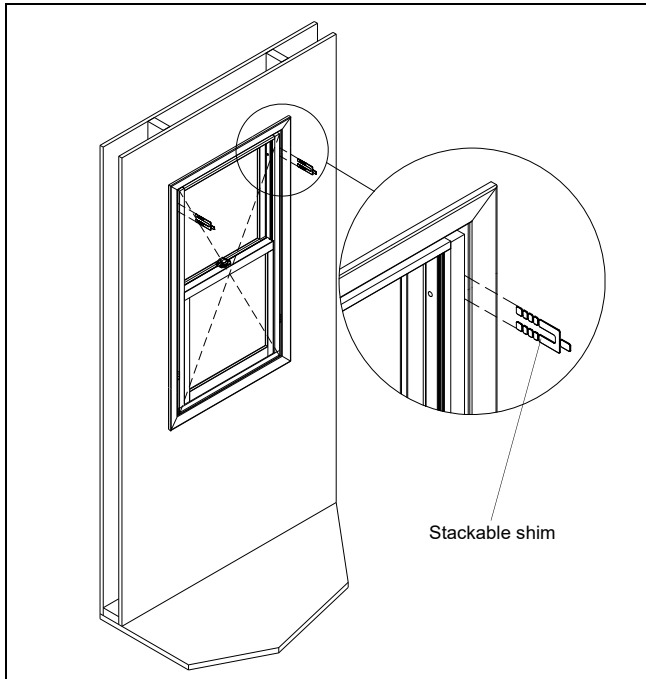

Figure 12
5. Place shims at bottom corners of jambs above the pre-drilled screw holes in jamb liners. See figure 12.